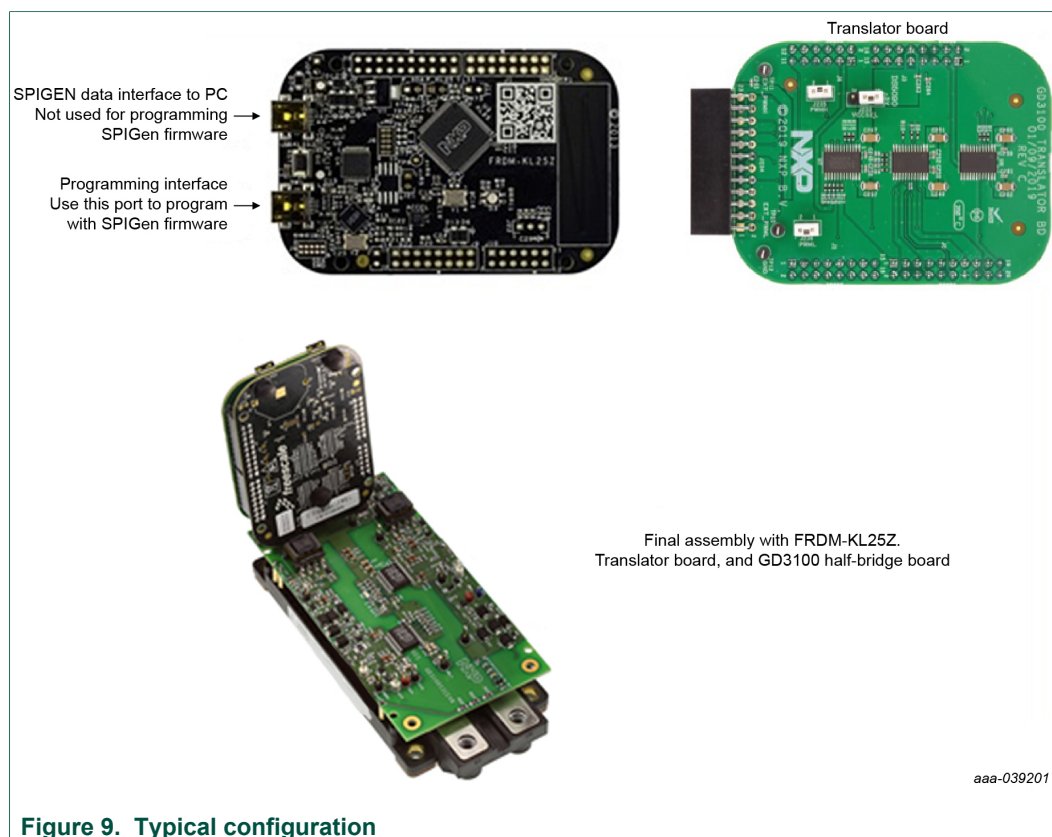

Figure 9. Typical configuration
Figure 9 presents a typical hardware configuration.
1. Connect FRDM-KL25Z and translator board with FRDMGD31ECNEVM half-bridge evaluation board (see Figure 9) by attaching to the 24-pin header in the correct orientation.